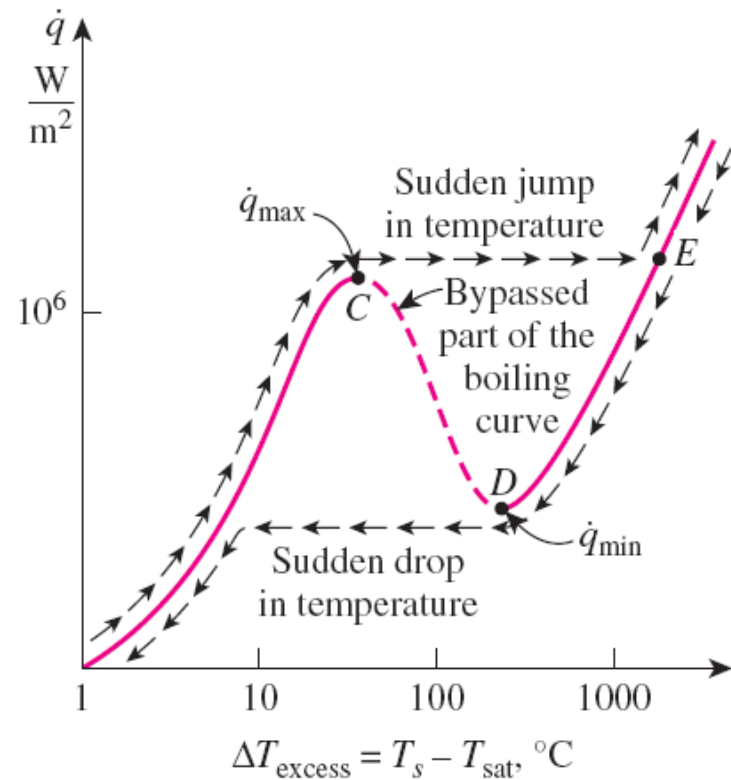

FIGURE 10–8
- When the power is reduced gradually starting from **point E** the cooling curve follows Fig. 10–8 with a sudden drop in excess temperature when **point D** is reached.